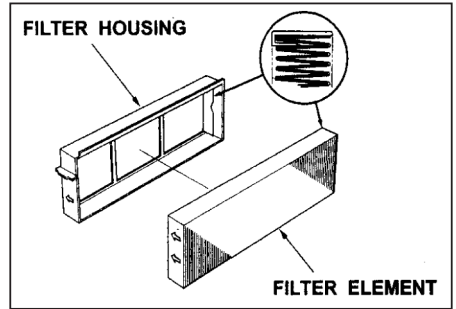

Fig. 3
5. Remove the original CAF elements from the filter housings. The original filter elements can be discarded and then install the replacement CAF elements into the filter housings. (See Fig. 3)